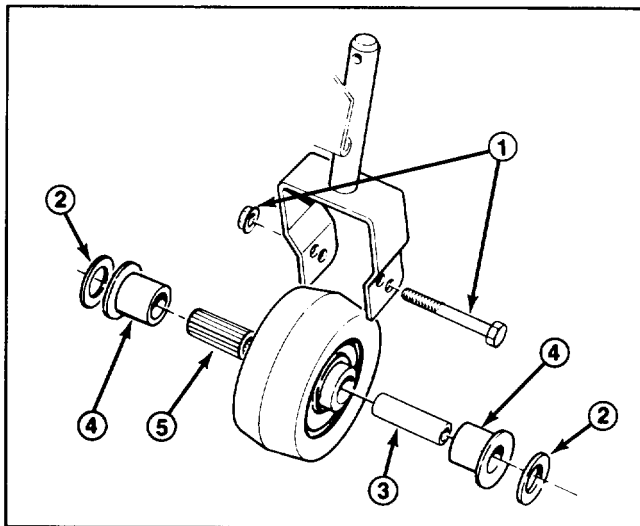

Figure 27
1. Remove capscrew and locknut holding caster wheel and (2) washers between caster fork (Fig. 27).
2. Pull spanner bushing out of wheel hub (Fig. 27).
3. Remove bushing from wheel hub and allow bearing to fall out (Fig. 27). Remove bushing from opposite side of wheel hub.
7. Install caster wheel assembly and (2) washers between caster fork, and secure all parts in place with capscrew and locknut.